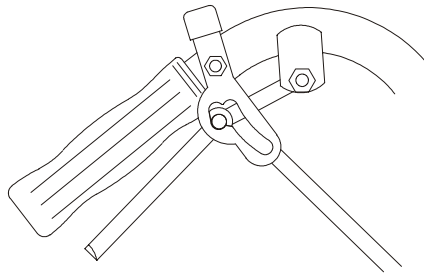

FIG. 11
1. With rear of machine still on jack stands and engine running at full throttle, move the speed control lever to the midway position. Move the respective drive lever upward until it reaches the **neutral** position and engage neutral lock latches. See fig. 11. If the tire rotates in either direction, the length of the drive lever linkage will need to be adjusted.